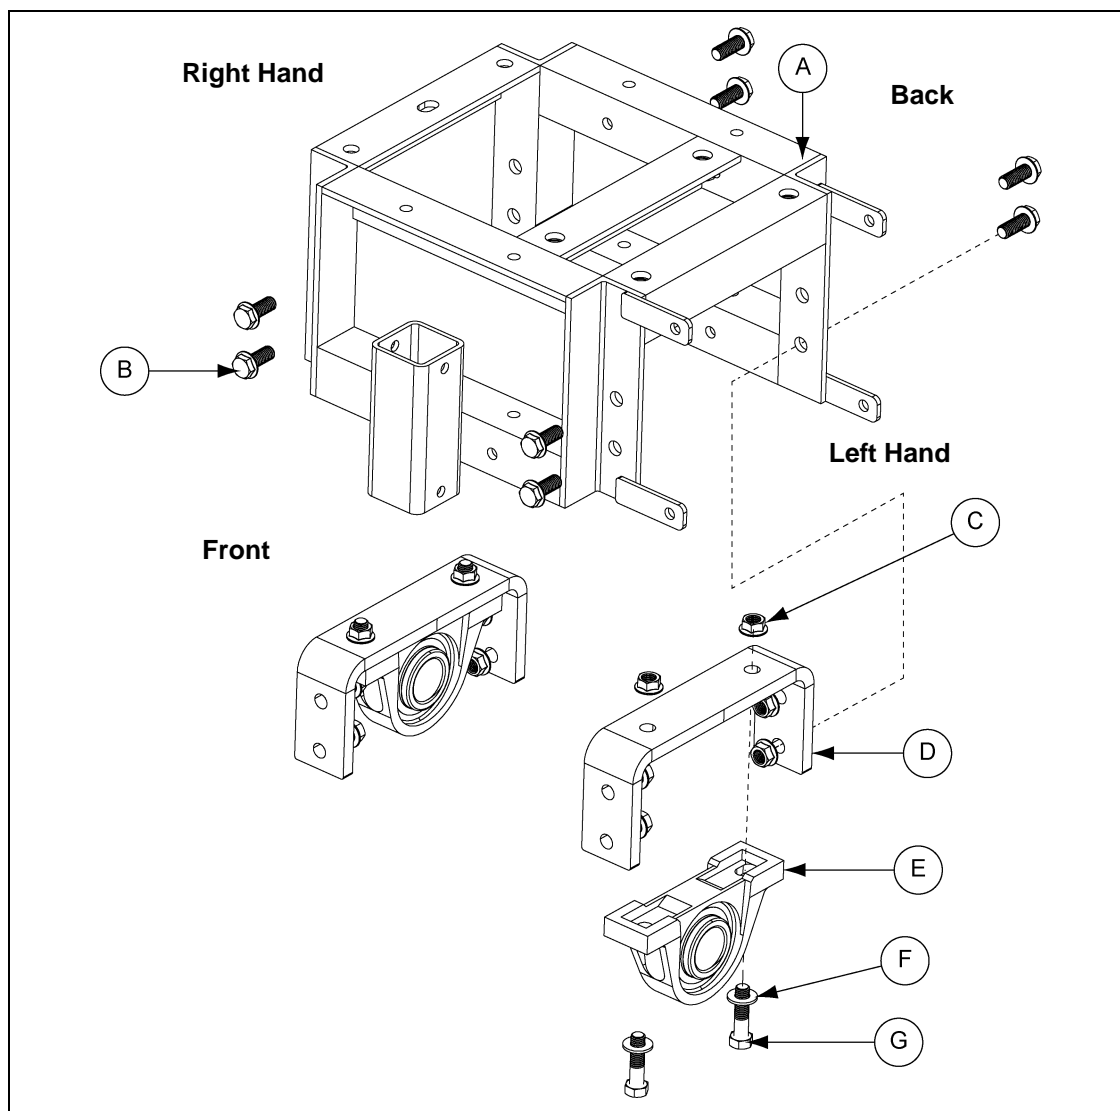

Figure 4P
1. Place the tractor frame (A) on plain flat ground.
2. Bolt each pillow block bearing (E) to a bearing mount bracket (D) using two (2) 1/2"-13 x 2" hex head cap screws (G), two (2) flat washers (F) and serrated flanged nuts (C).
3. Bolt each bearing mount bracket (D) to the tractor frame (A) using two (2) 1/2"-13 x 1-1/4" flange bolts (B) and serrated flanged nuts (C). *(See Figure 4P.)*
**NOTE:** Lock collar flanges for each pillow block bearing (E) must be to the inside of frame.